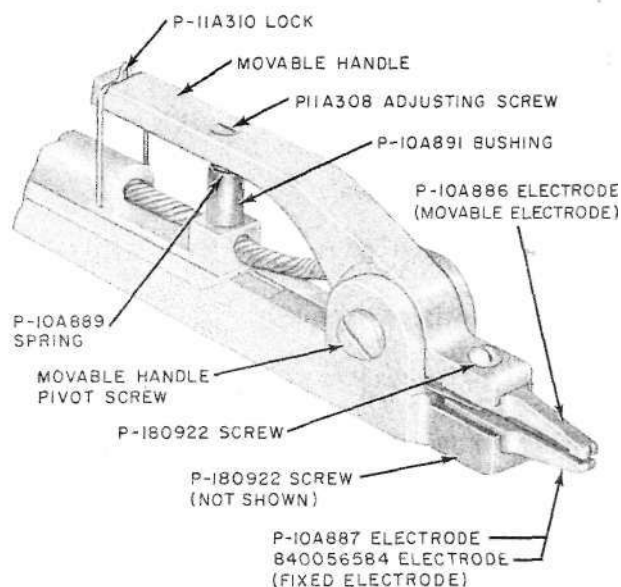
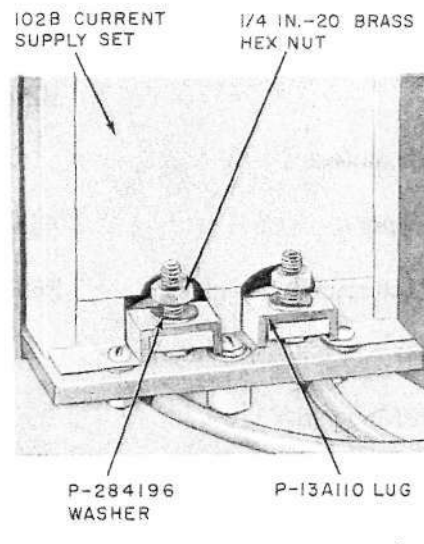

Fig. 7—577D Welding Pliers
Fig. 8—102B Current Supply Set
5.01 The figures in this part show the parts of the welding pliers and current-supply set which may be replaced in the field as follows: 577A and 577B welding pliers (Fig. 5); 577C welding pliers (Fig. 6); 577D welding pliers (Fig. 7); and 102B current-supply sets (Fig. 8). These parts are shown in proper relation to associated parts. The piece-part numbers and names of replaceable parts as listed by the Western Electric Company Merchandising Department are given on the figures. No attempt should be made to replace parts not designated.
Movable	See Fig. 7